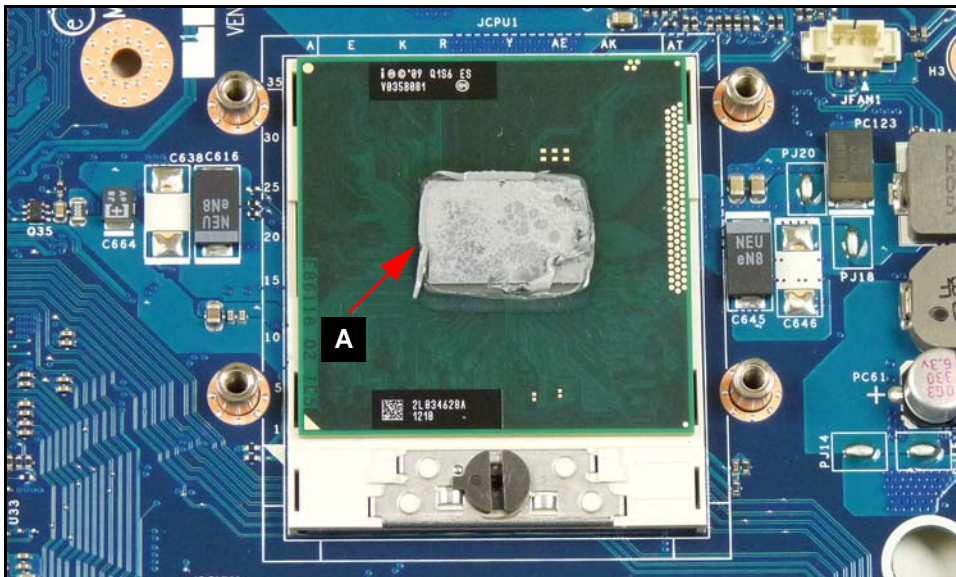

Figure 3-48. Applying Grease to CPU
2. Apply small amount of thermal grease to center of CPU (A) (Figure 3-48).